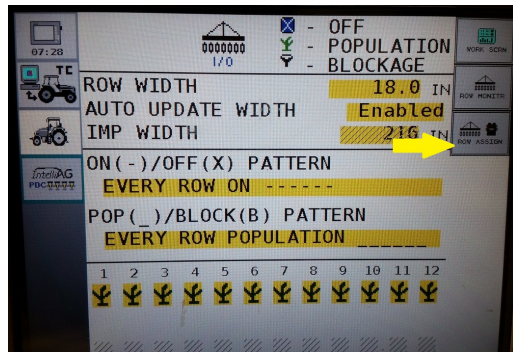

Figure 35
Step 9. We will then go to **Row Assign** to verify # of rows. (Figure 35)